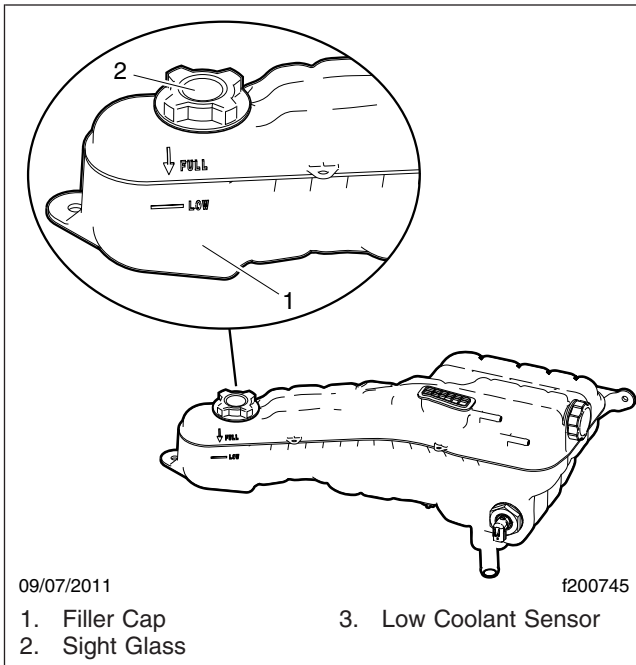

Fig. 23.10, Plastic Surge Tank
- **Translucent Surge Tank:** If the coolant is low, fill the surge tank to the FULL line with a 50/50 mixture of water and antifreeze. See Fig. 23.10. Start the engine after refilling and check the level again when the engine is at operating temperature.